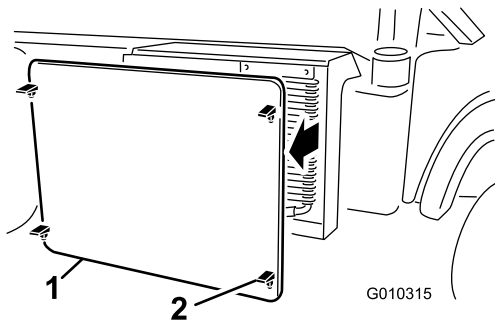

Figure 53
5. Unlatch and remove the radiator screen from the front of the radiator (**Figure 53**).